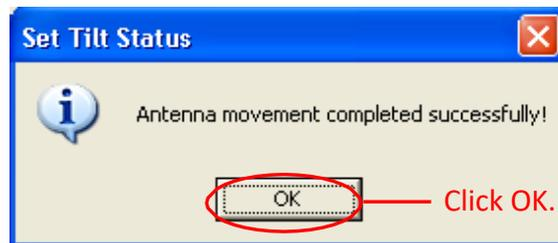

Figure 7-7. Electrical Tilt Adjustment Complete.
7. You will be notified when movement is complete (Figure 7-7).